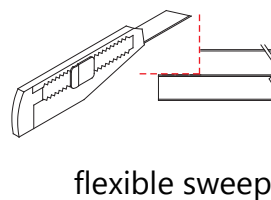

**Fig 11**
**11.** Drill holes into the aluminum profile of the **Door assembly (#02)** through the predrilled holes in the **Corner Profile (#10)** using an  $\text{\O 1/8}$  drill bit. Secure the Door assembly inside the **Corner Profile (#10)** using the **Pan Head Screws ST4.2x10 (#04)** with the raised white washers. Cover the exposed screw heads with the **Decorative Covers (#06)**. (**Fig 11**)